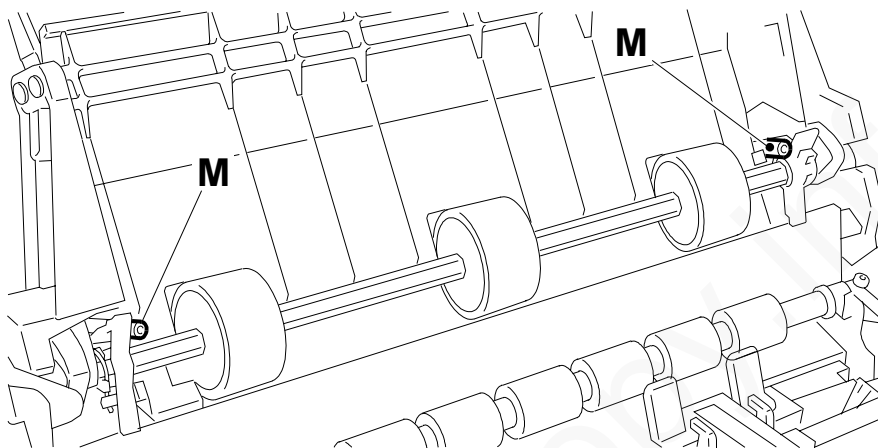

Fig. 7-32
- position the two springs **M** of the automatic inserter above the paper shifter roller shaft, so as to be able to re-latch them easily (Fig. 7-32):
- position the two springs **M** of the automatic inserter above the paper shifter roller shaft to be able to re-latch them easily (Fig. 7-32)